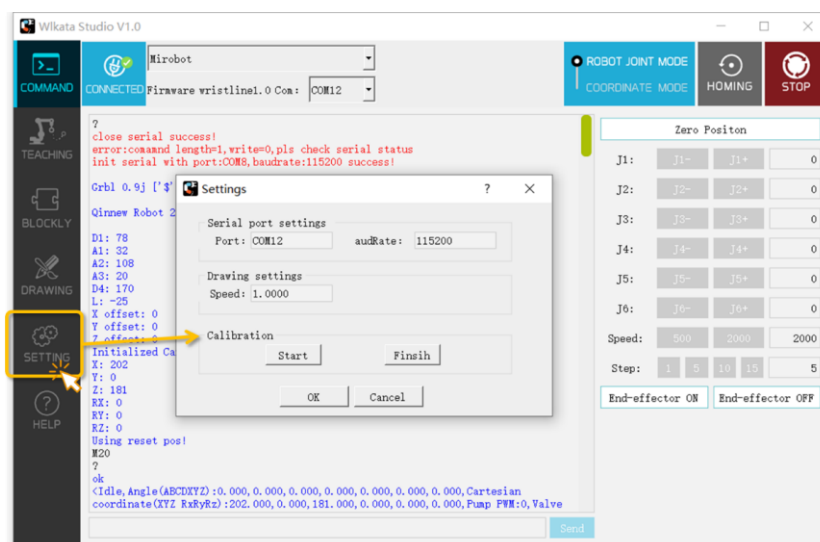

Figure A2 The Calibration in the Settings menu
- (1) Connect the Mirobot manipulator to the computer with USB cable, and turn on the power supply.
- (2) Open the Wlkata Studio.exe software interface. Ensure the WLKATA Studio shows a **CONNECTED** icon which indicates the manipulator is connected to the software.
- (3) Click **SETTINGS** tab, and the Settings menu would pop-up, as shown in Figure A2.